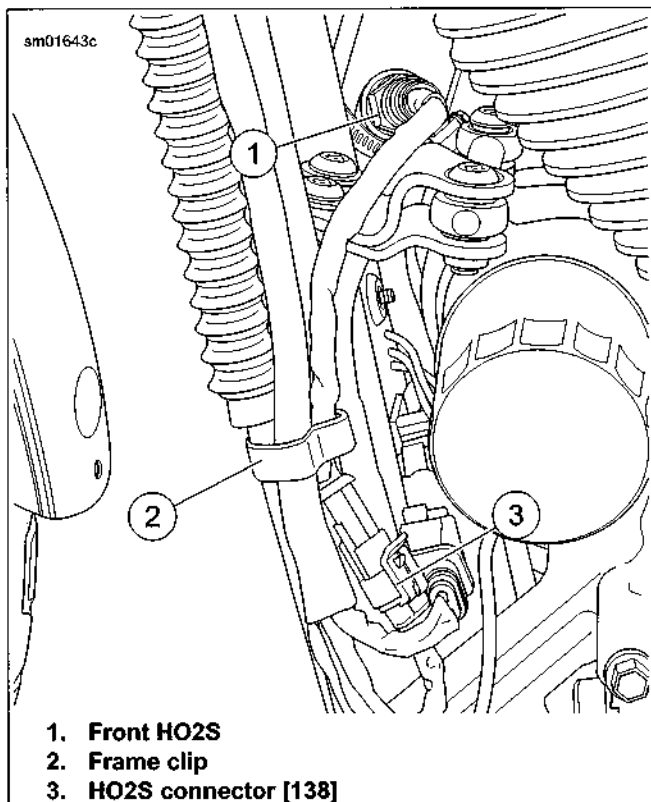
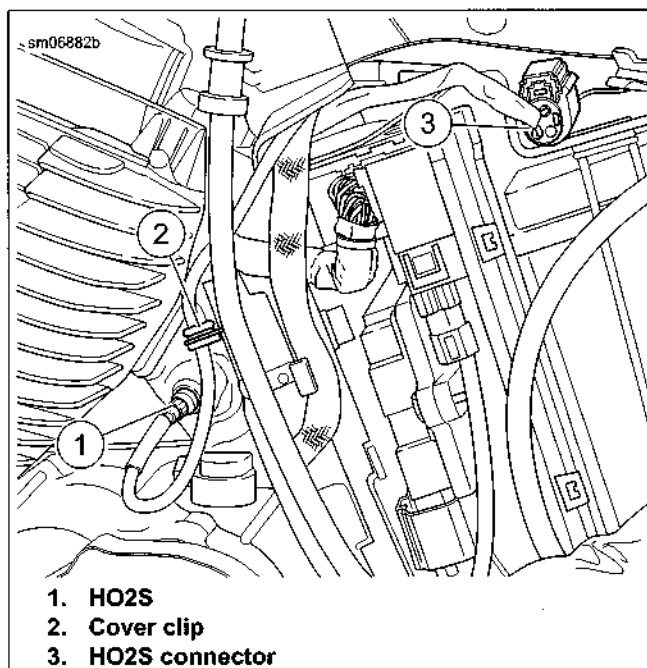

Figure 4-34. Front HO2S and Connector
Figure 4-35. Rear HO2S and Connector [137]
1. See Figure 4-34. Disconnect the front HO2S.
- a. Separate the front HO2S connector [138] (1) housings
- b. Remove the frame clip (2).
2. See Figure 4-35. Disconnect the rear HO2S (1).
- b. Separate the rear HO2S connector [137] housings (3).